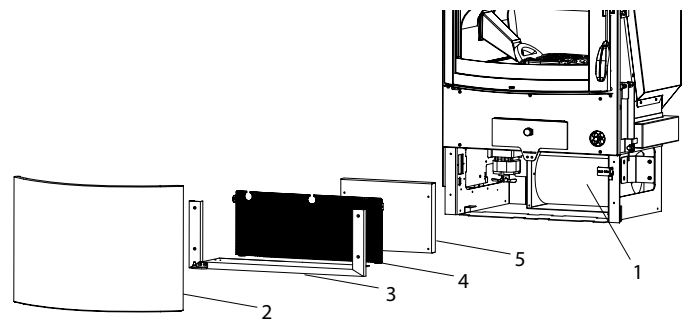

Fig. 6.5.1
The air fan (1) is located in the lower rear part of the stove. (Fig. 6.5.1)